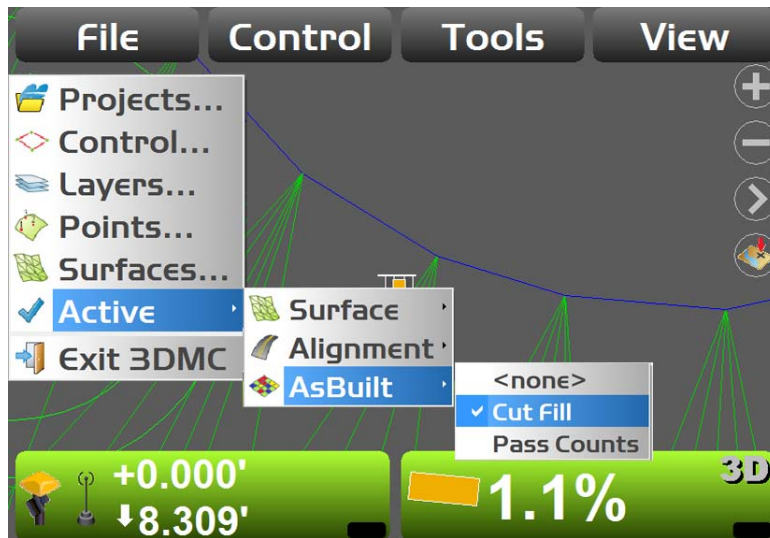

Figure 47: Select an Active As-built File
2. Select the as-built file to be active on the main screen (Figure 47).